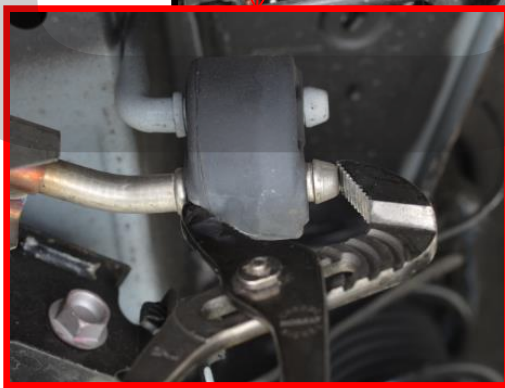

Figure 1c
- b) Use the large jaw channel locks to disconnect the OEM hangers from the exhaust, shown in Figure 1c. If you are having difficulties, spray a small amount of silicone or white lithium grease on the end of the exhaust hanger rod. Complete for all four hangers
- d) Remove the OEM exhaust hanger from the mid-section as shown in Figure 1c on Page 2.